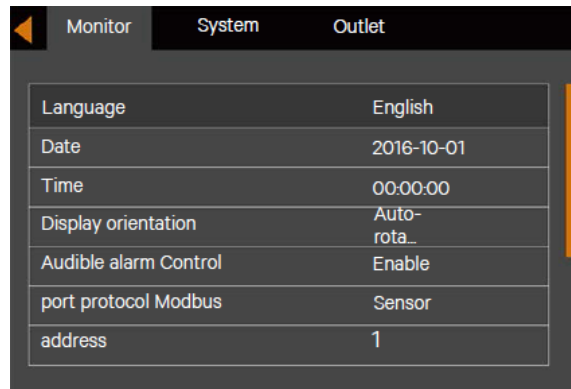

Figure 5-9 Monitor Interface
2. Press the  key to move the cursor to 'Monitor', see Figure 5-9.